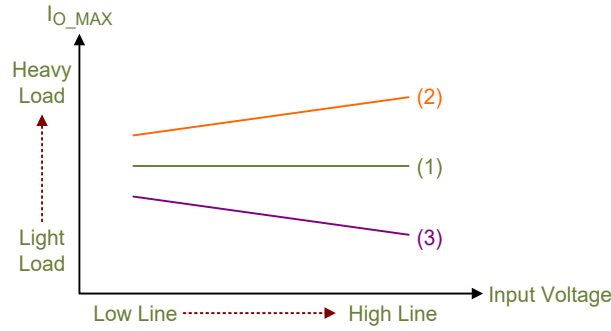

Figure 6. Output Current Limits for Overcurrent Protection
As a starting point, RPDC = 470Ω and CRC = 100pF can be used as reasonable initial settings for line compensation. In Figure 6, curve (1) represents an ideal output current limit curve for overcurrent protection, which remains constant from low line to high line input voltages. If the output current limit curve is like curve (2), the resistance RPDC should be increased. However, if the output current limit curve is like curve (3), the capacitance CRC should be increased. The output current limit (IO_MAX) under different line voltages can be optimized by adjusting the propagation delay resistor (RPDC) or the propagation delay capacitor (CRC) to achieve accurate overcurrent protection.